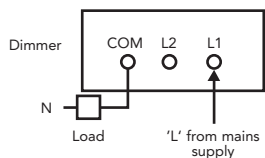

Figure 1 - typical one-way switch circuit
- Dimmers with rotary switches can be used for one-way switching only and are used in installations that require just one switch to control a circuit. (i.e. one light that is either on or off.) **See Figure 1.**
10. Ensure each wire is connected to the appropriate terminal, as shown in the typical diagram - **Figure 1**.